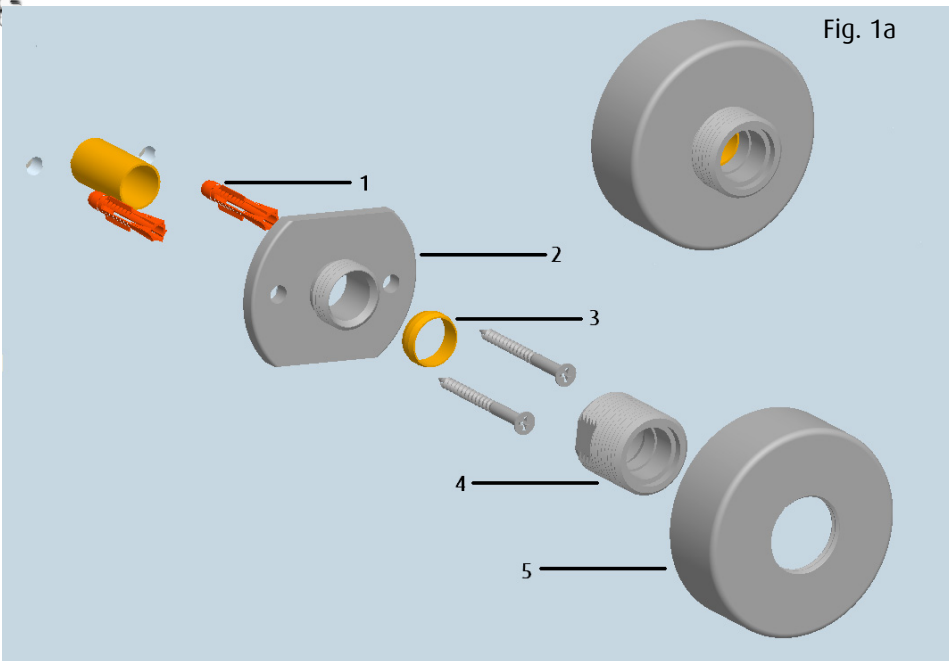

Fig. 1a
4.1 Pre-Installation (See Fig. 1a & 1b)
4.2.1 Fast Fit Fixing Kit (See Fig. 1a)
To fit mixer body to the wall. Place the filter washers (6) into the connecting nuts (7) and tighten to the fixing bridge (4 on page 3. Fig. 1a) using the connecting nuts (7) which are secured to the mixer body.